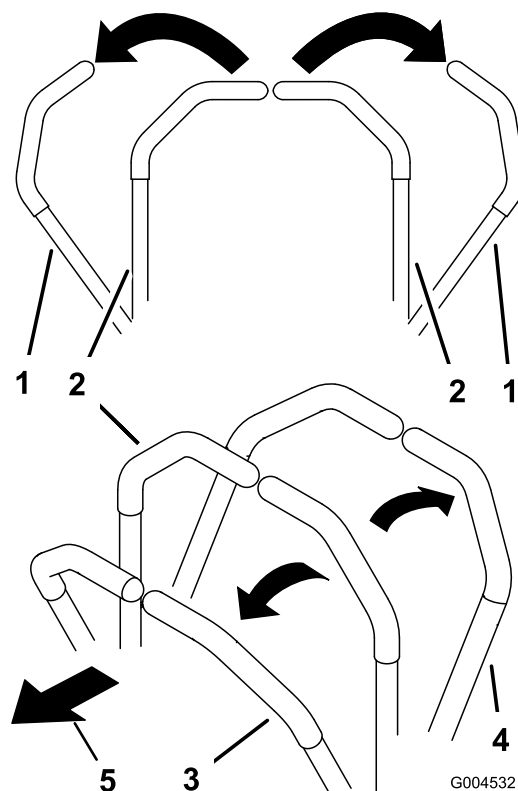

Figure 17
2. To go forward, slowly push the motion control levers forward (Figure 17).
To go straight, apply equal pressure to both motion control levers (Figure 17).
To turn, release pressure on the motion control lever toward the direction you want to turn (Figure 17).